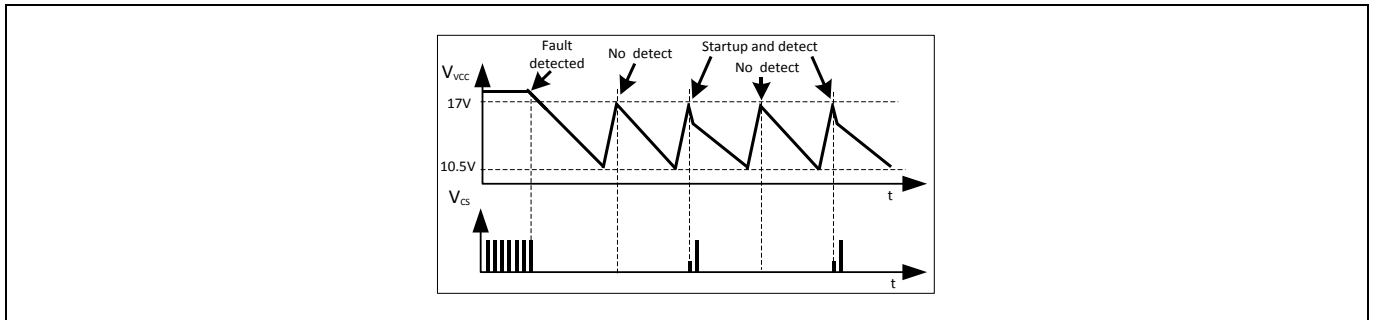

Figure 30 Odd skip auto restart waveform
Odd skip non switch auto restart mode is similar to odd skip auto restart mode except the start up switching pulses are also suppressed at the even number of the restart cycle. The detection of fault still remains at the even number of the restart cycle. When the fault is removed, the IC will resume to normal operation at the even number of the restart cycle (Figure 30).
VCC OVP (1) condition is when V_{VCC} voltage is $> 20.5\text{ V}$, V_{FBB} voltage is $> 4.5\text{ V}$ and during soft start period, the IC enters into odd skip Auto Restart Mode. This condition likely happens during start up at open loop fault (Figure 30).
Vcc OVP (2) condition is when V_{VCC} voltage is $> 25.5\text{ V}$, the IC enters into odd skip Auto Restart Mode (Figure 30).
In case of Overload or Open Loop, the V_{FBV} voltage exceeds 4.5 V which will be observed by comparator C4. Then the built-in blanking time counter starts to count. When it reaches 20 ms, the extended blanking time counter CT1 is activated. The switch S2 is turned on and the voltage at the BBA pin will be discharged through 500 Ω resistor. When it drops to 0.9 V, the switch S2 is turned off and the Switch S1 is turned on. Then a constant current source I_{chg_EB} will start to charge up BBA pin. When the voltage hits 4.5 V which is monitored by comparator C11, the switch S1 is turned off and the count will increase by 1. Then the switch S2 will turn on again and the voltage will drop to 0.9 V and rise to 4.5 V again. The count will then increase by 1 again. When the total count reaches 256, the counter CT1 will stop and it will release a high output signal. When both the input signals at AND gate G5 is high, the odd skip Auto Restart Mode is activated after the 30 μs spike blanking time (Figure 30).